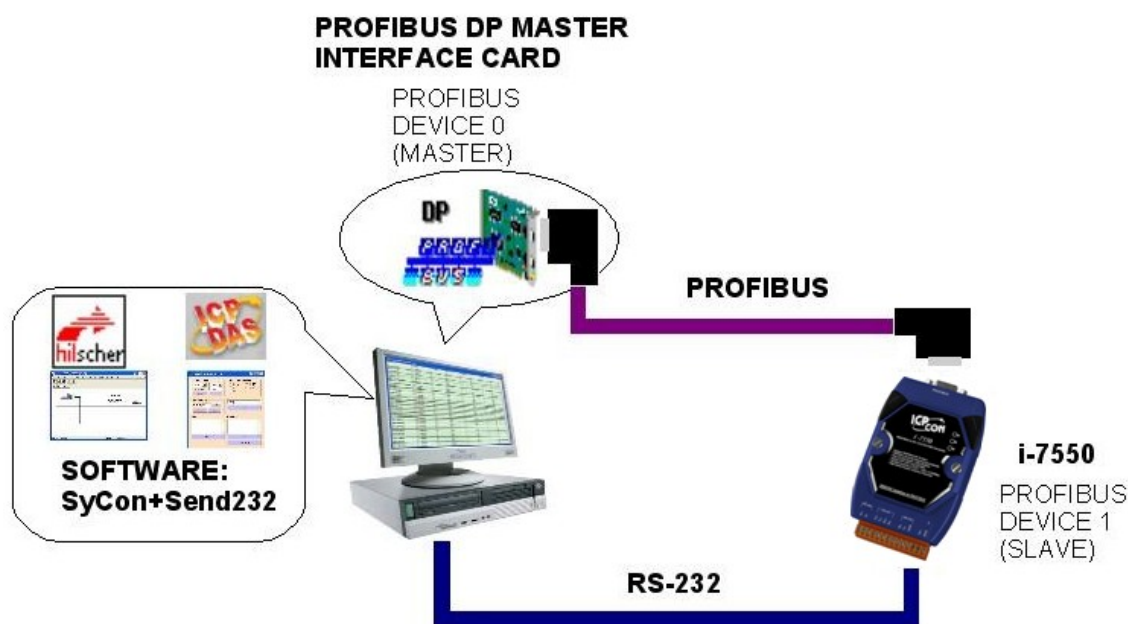

Figure 36: System setup
- Connect the RS232 port of the I-7550 module to a COM port of the PC and the PROFIBUS port to a PROFIBUS master (Figure 36).